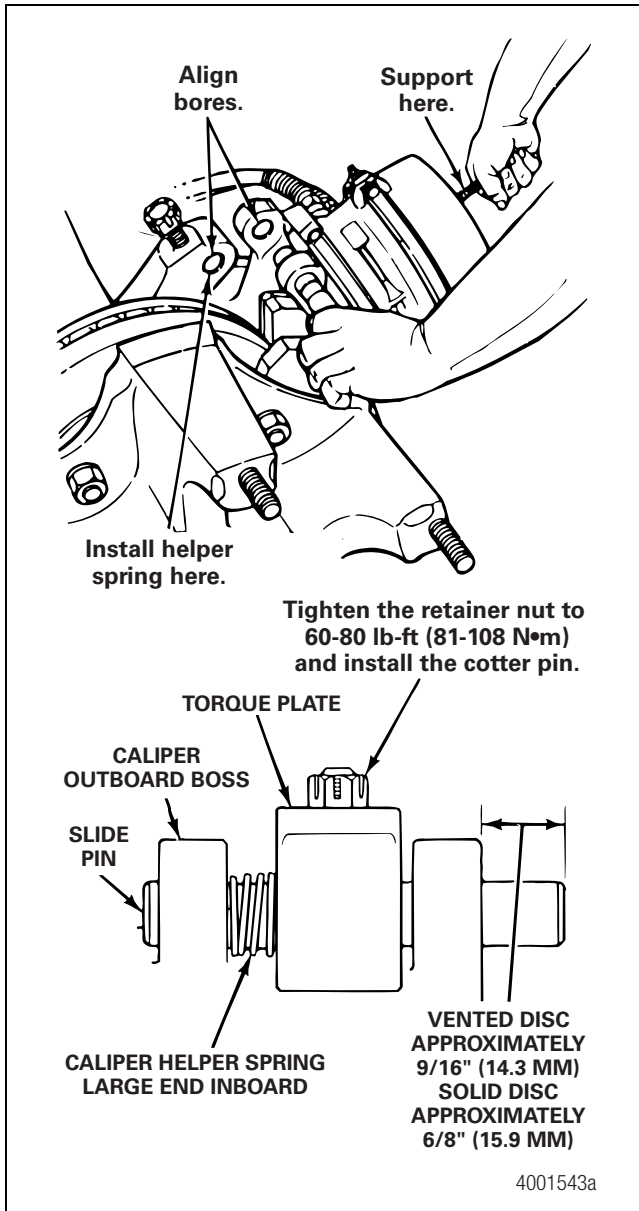

Figure 3.8
2. Install one spring on each slide pin between the torque plate and the OUTBOARD caliper boss. Figure 3.8.